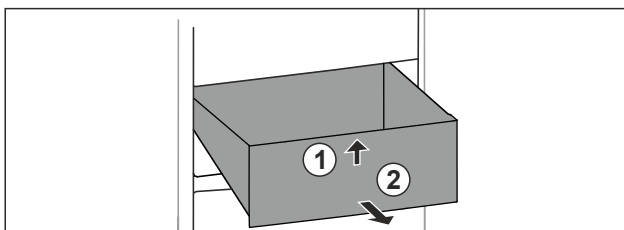

Fig. 81
- Lift up drawer at the front. Fig. 81 (1).
- Remove drawer to the front. Fig. 81 (2).